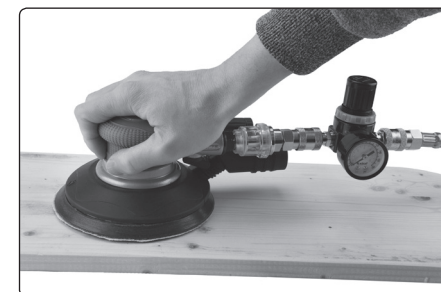

Fig. 11
- With the palm of your hand, press the trigger switch and hold the sander by the handle (fig. 11).